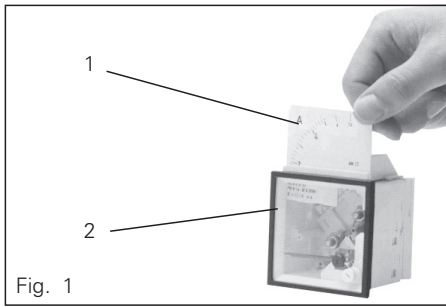

Fig. 1
On measuring instruments for c.t. connection n/1A (fig. 1, item 2) the interchangeable scales can be changed via a flap arranged on the upper part of the measuring instrument (fig. 1, item 1).